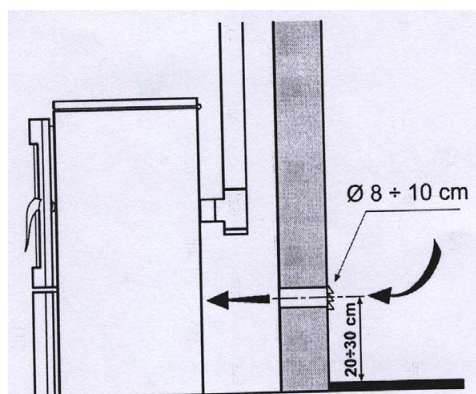

Figure 8. Minimum distances for the installation of the ventilation grid
3.4 THE INTAKE OF COMBUSTION AIR (Figure 8)